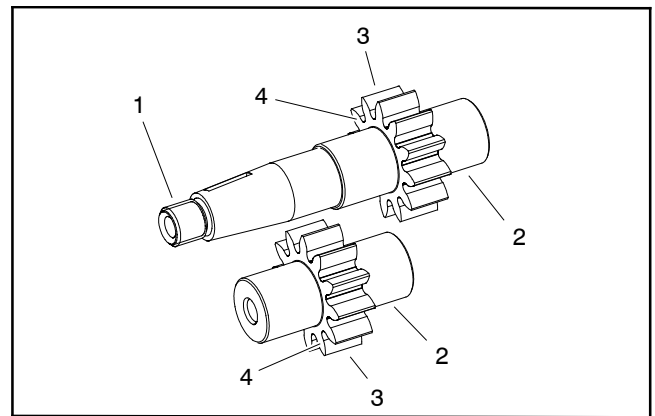

Figure 91
3. Inspect drive gears and idler gears for the following (Fig. 91):